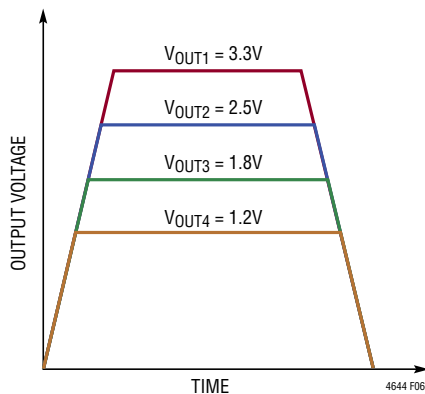

Figure 6. Output Coincident Tracking Waveform
The coincident output tracking can be recognized as a special ratiometric output tracking which the master’s output slew rate (MR) is the same as the slave’s output slew rate (SR), as waveform shown in Figure 6.
The expression shows that the diode voltage decreases (linearly if I_0 were constant) with increasing temperature and constant diode current. Figure 6 shows a plot of V_D vs Temperature over the operating temperature range of the LTM4644.